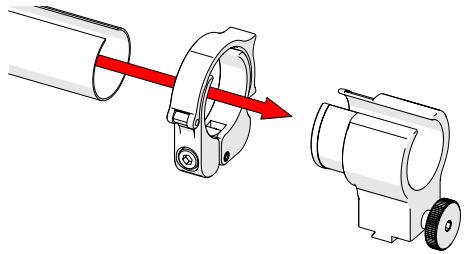

Fig. 73 - Slide tube around mount
2. Slide the clamp around the tube first and then slide the tube around the outside of the cable management dovetail mount (*Fig. 73*). Align the zipper opening and the cable management dovetail mount opening.